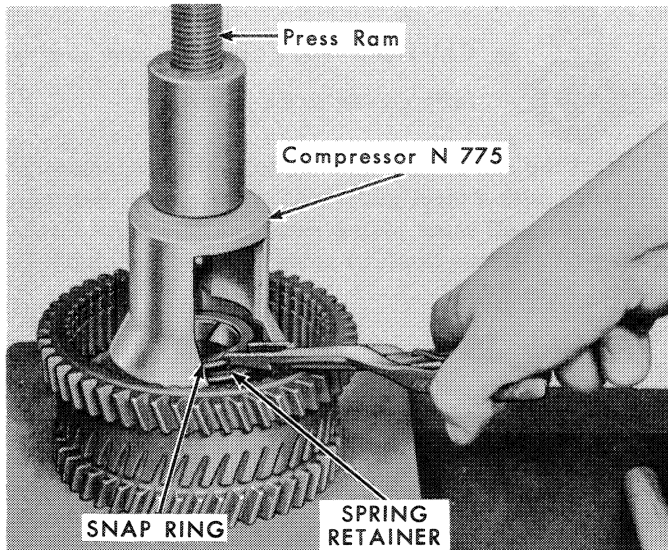

Figure 85
3. Compress the piston return spring in a press with the Compressor, N-775, shown in Figure 85, then remove
2. Install the clutch release spring and retainer with Compressor, N-775, as shown in Figure 85. Compress the spring in a press and install the snap ring.